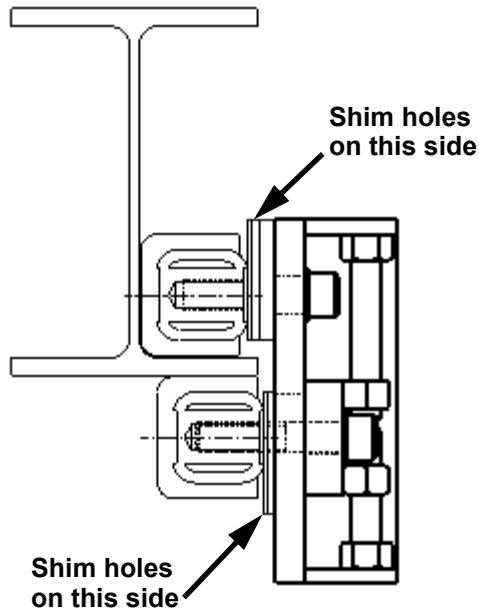
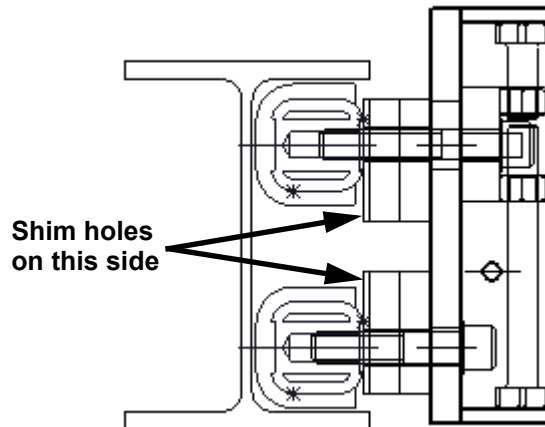
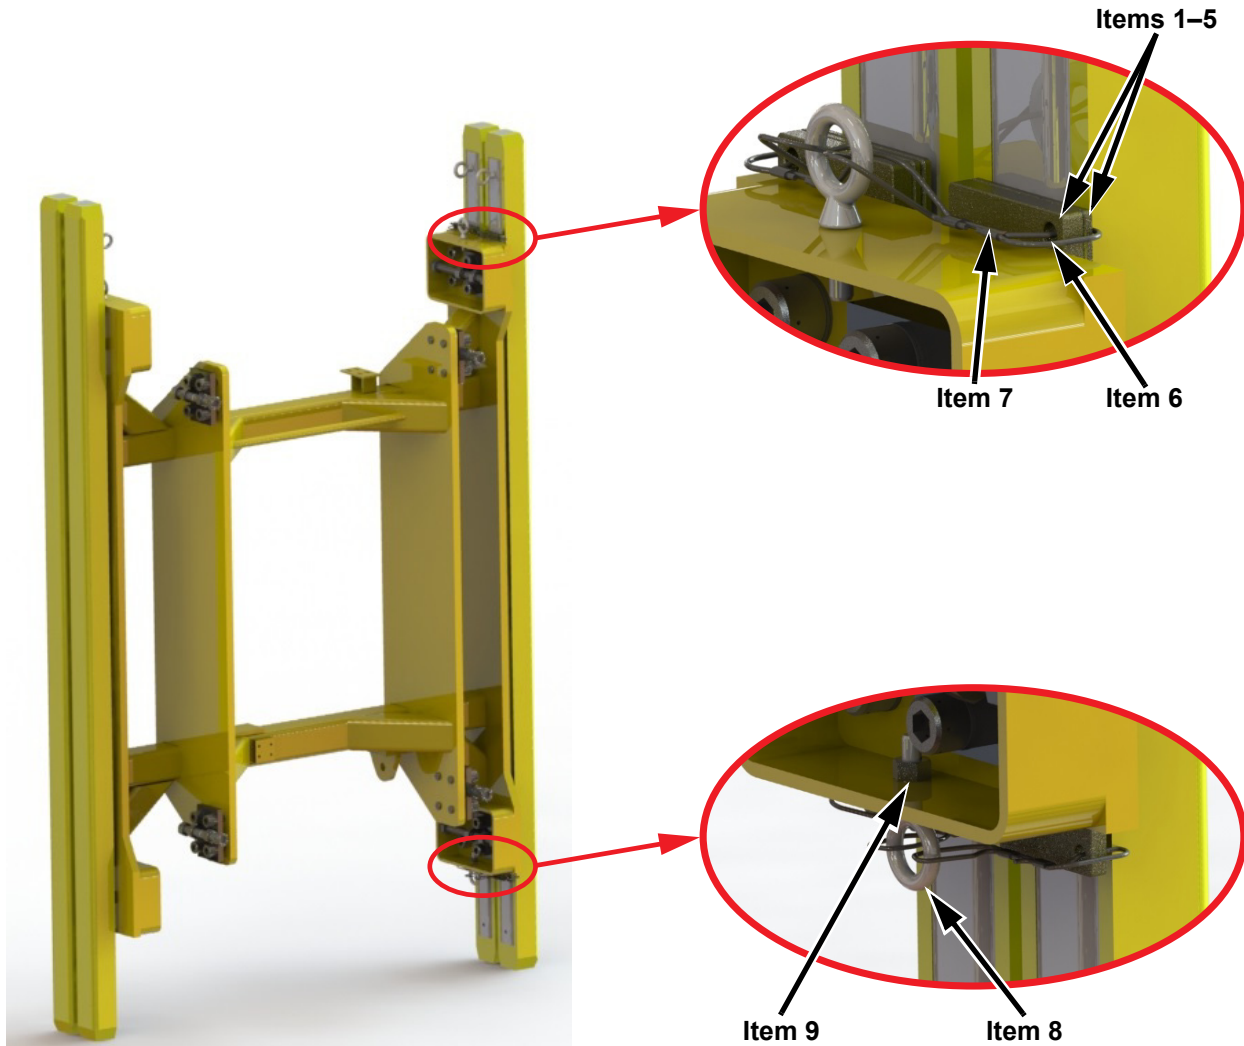

Figure 1: Guide Runners in Between a Flange
Figure 2: Guide Runners in Between a W-Flange
Figure 5: Orientation of Shim Holes
The following guide runner configurations are available. The position of the shim holes will vary accordingly. See Figure 1 and Figure 2.
- If the guide runner configuration is as shown in Figure 1 on page 3, then the holes on the shims are oriented outward. See Figure 5.
- If the guide runner configuration is as shown in Figure 2 on page 3, then the holes on the shims are oriented inward.